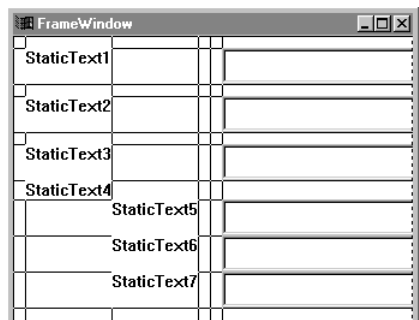

Figure 97. Multicell Canvas Showing Parts Dropped into an Expansion Column
9. Drop IEntryField* parts in the expansion area to the right of the IStaticText* parts, starting at row 2. A new column 6 is created, as shown in Figure 97.